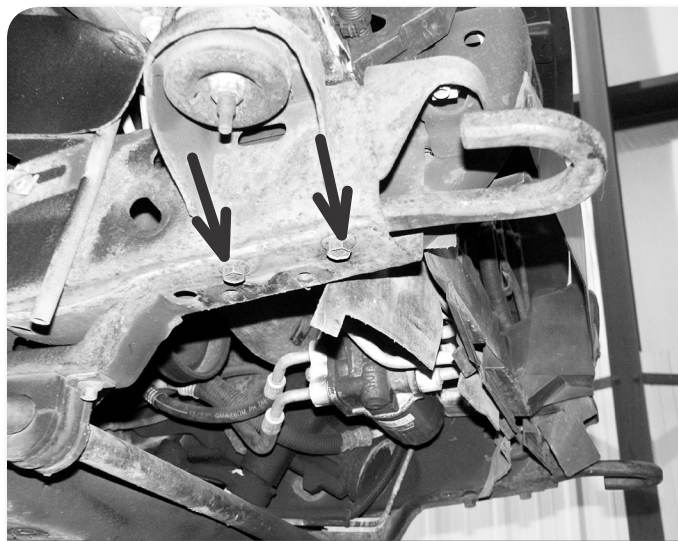

Figure 5
7. If equipped, remove the two bolts mounting each of the tow hooks in the frame rails and remove the tow hooks from the vehicle Figure 5.